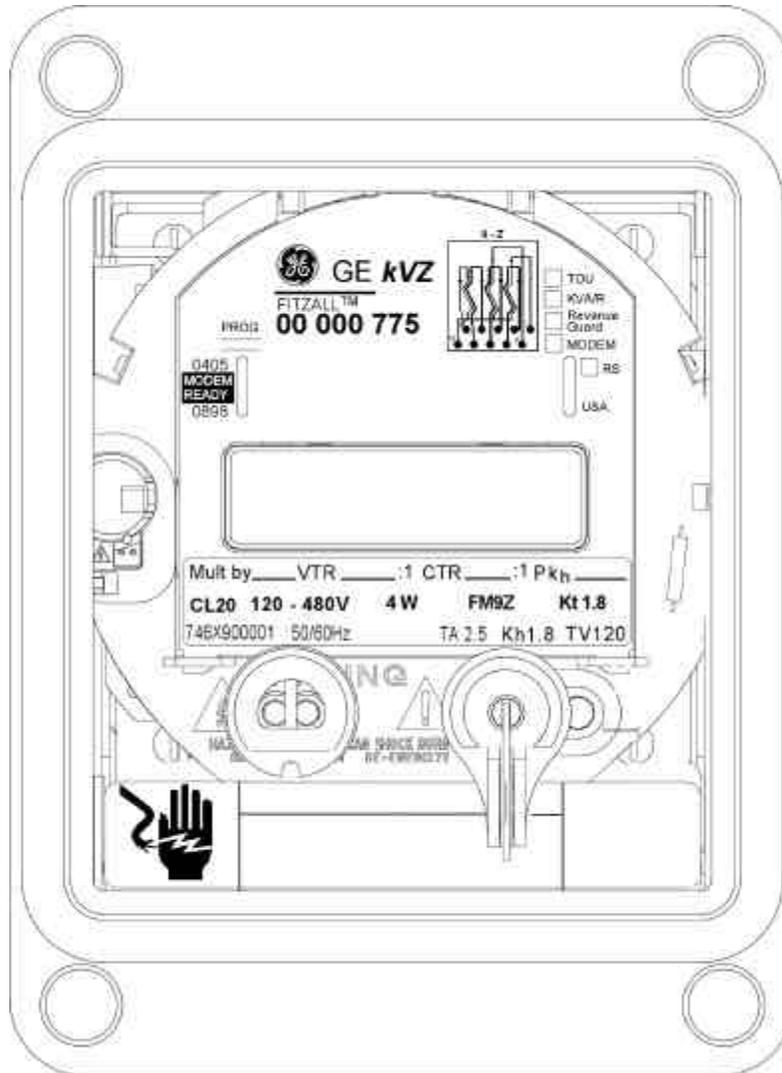

Figure 1-1. The kV Switchboard Meter
- Figure 1-1. The kV Switchboard Meter 1-1